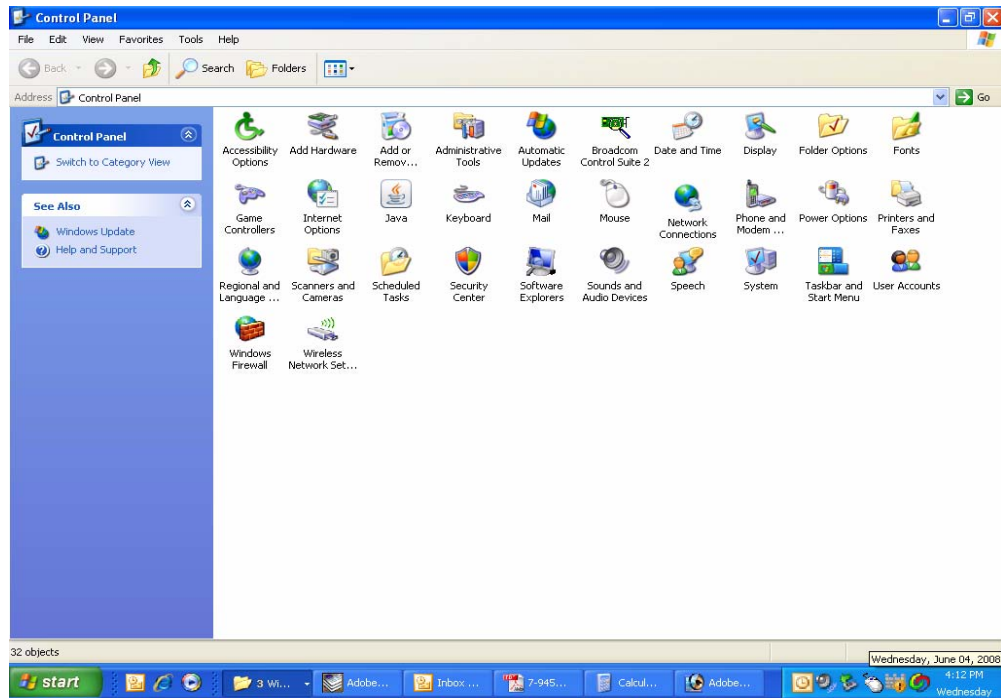

Figure B2: Select the “Network Connections” icon.
- 3) From the "Control Panel" icon selections double click on the "Network Connections" icon. Refer to **Figure B2**.